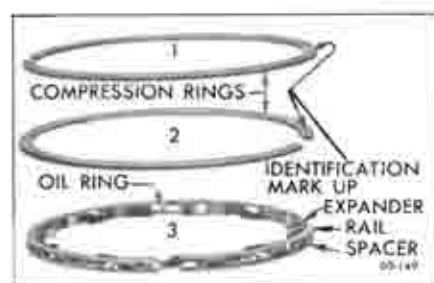

Figure 60-149—401 Cu. In. Engine Piston Rings
7. Remove compression rings. Then remove oil ring by removing the two rails, spacer, and expander which are separate pieces in each piston third groove. See Figure 60-149.